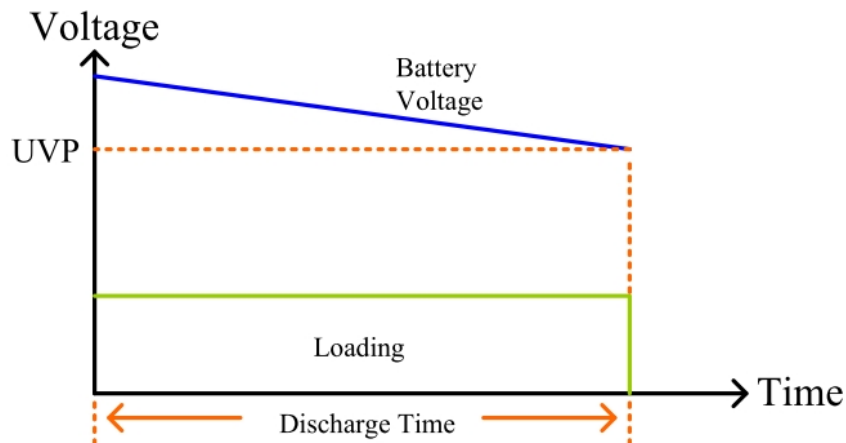

Fig 5-15 TYPE 1 Battery Discharge Figure
When testing loads on of Constant current (CC) mode, When battery voltage is less than UVP (under voltage protect) setting values, The LED is off to indicate Load off status, and displays the total discharge stored energy of the AH as fig 5-15 shows.